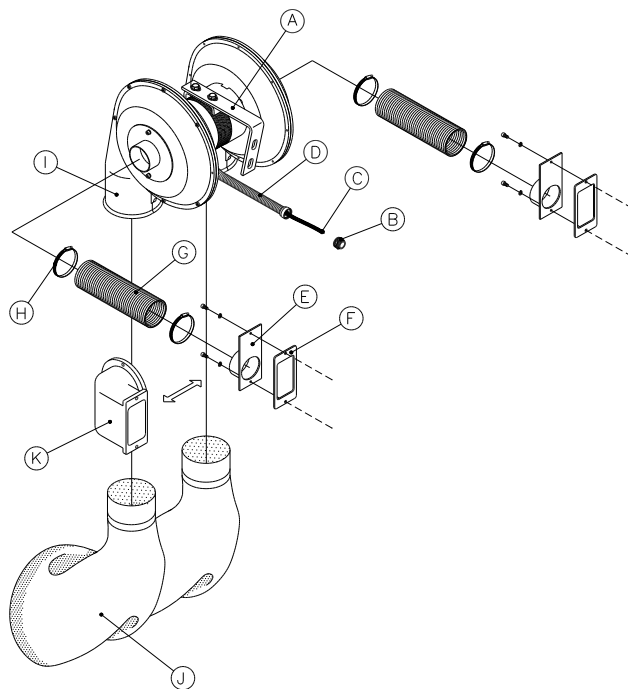

Fig.: 4.1
The following description on assembling and mounting of the KU 12-exhaust unit. The angle (A) (see *fig.: 4.1*) is first mounted at the back of the EPB 312-machine and then as shown on the KU 12-motor. Dismount the blind stopper at the back of the EPB 312-machine and mount the connector (B). Dismount the switch on the EPB 312-machine without unscrewing the cables. Lead the cable (C) through the connector (B) and mount the protection hose (D) to the connector (B). Mount the cables from the KU 12-exhaust unit on the switch (see the wiring diagram). Mount the switch again. Dismount the blind stoppers on the cover or the belt arm and instead mount the lid (E) with the outlet. Also remember to mount the cork washers (F). To fit the suction hoses (G) and mount these with the straps (H). The KU 12-exhaust unit must before use be mounted with suction hoses on the outlet (I), which then is connected to the central exhaust unit. If the central exhaust unit is not equipped with a cyclone, the exhaust from the KU 12-exhaust unit must be connected to a cyclone which then is connected to the central exhaust. If there is no central exhaust you have to mount dust bags (J) on the outlet (I).